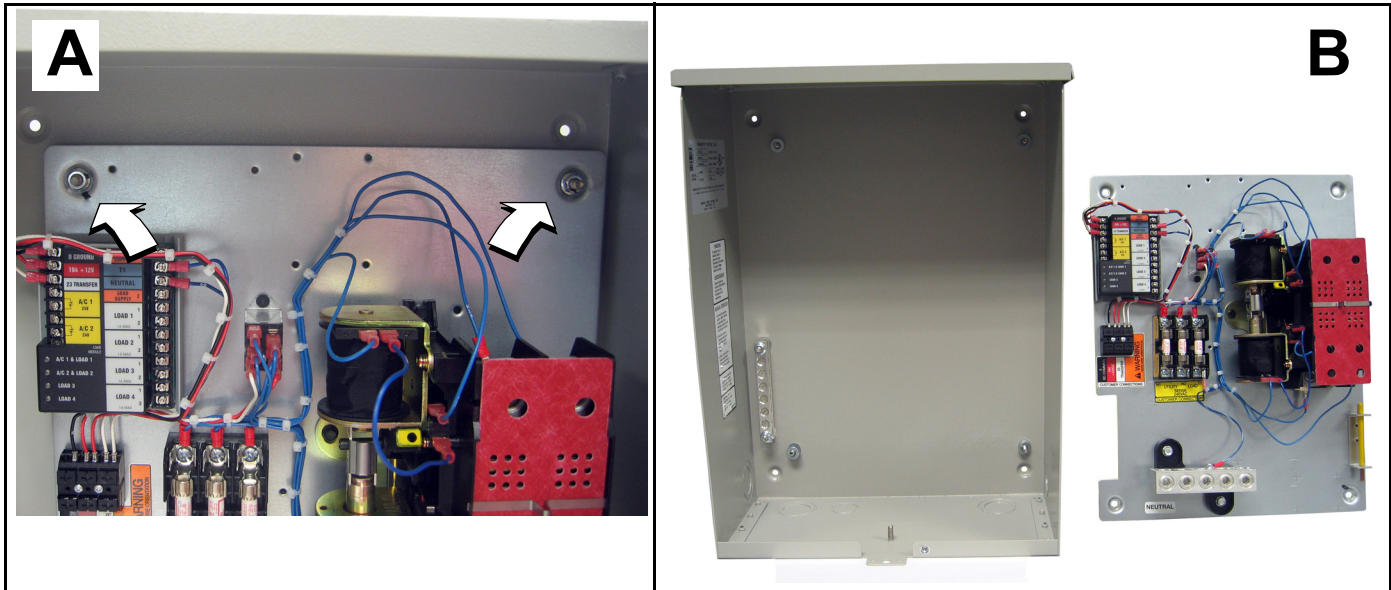

Figure 4-2. Remove Subplate From Enclosure
1. Remove flange nuts from weld studs at each corner of subplate. See A of Figure 4-2.
2. Remove subplate with transfer switch assembly from weld studs. See B of Figure 4-2.